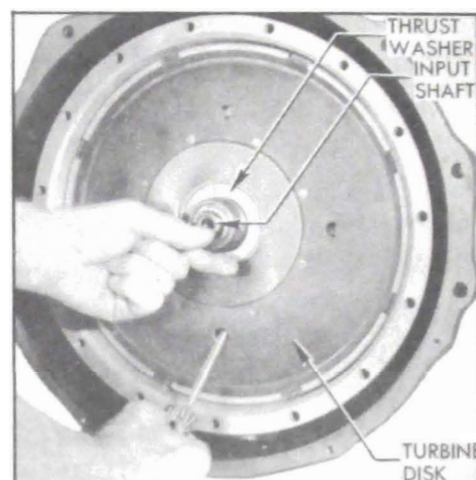

Figure 4-12—Removing Twin Turbine Assembly
5. Insert screwdriver into a hole in the first turbine disk to aid in removing the twin turbine assembly from the input shaft. Push inward on shaft to avoid withdrawing it. Remove bronze thrust washer from turbine hub. See figure 4-12.